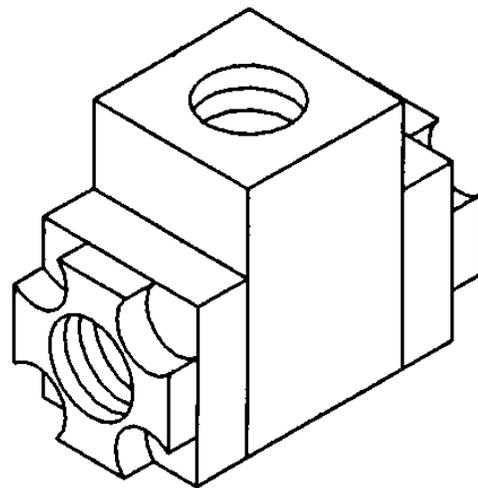

FIGURE 4-5 – SHUTTLE VALVE
Shuttle Valve (FIGURE 4-5, page 33) – Also known as a double check valve, the shuttle valve is a device which will take two (2) supply signals and allow the one with the highest pressure to pass through. The shuttle valve is used to provide control air pressure from either the reservoir or plant air system, as required during different operating conditions.